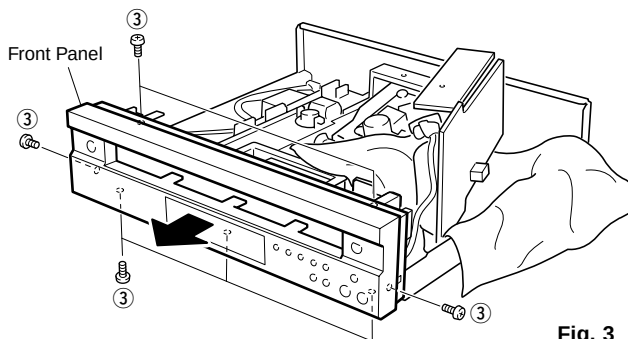

Fig. 3
- h. Remove 7 screws (③) as shown in Fig. 3.